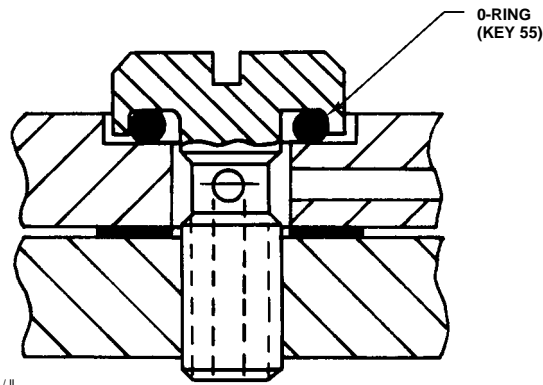

Figure 16. Bellows Screw Detail
4. Unscrew the bellows screw (key 54) from each end of the mounting base (key 30). [Note: The bellows screws (key 54) have an O-ring (key 55, figure 16) installed beneath the bellows screw head. Remove the O-ring and obtain a replacement when re-assembling the bellows.]
5. Compress the bellows so that the end of the bellows and beam can be removed from the end of the mounting base (key 30) and unscrewed from the stud (key 51, not shown) that connects the bellows.
6. With the stud that connects the two bellows in place in the spacer (key 50), screw the new bellows onto the stud. Install new gaskets (key 53) on each bellows.
7. Compress the bellows, and install them into the mounting base (key 30). With the beam parallel with the mounting base, secure the bellows with the bellows screws (key 54).
The bellows screws (key 54) have an O-ring (key 55) installed beneath the bellows screw head as shown in figure 16. Be sure this O-ring is in place before installing the screw into the mounting base.
8. After tightening the bellows screws, make sure that the nozzle (key 57) is centered on the flapper (key 45).